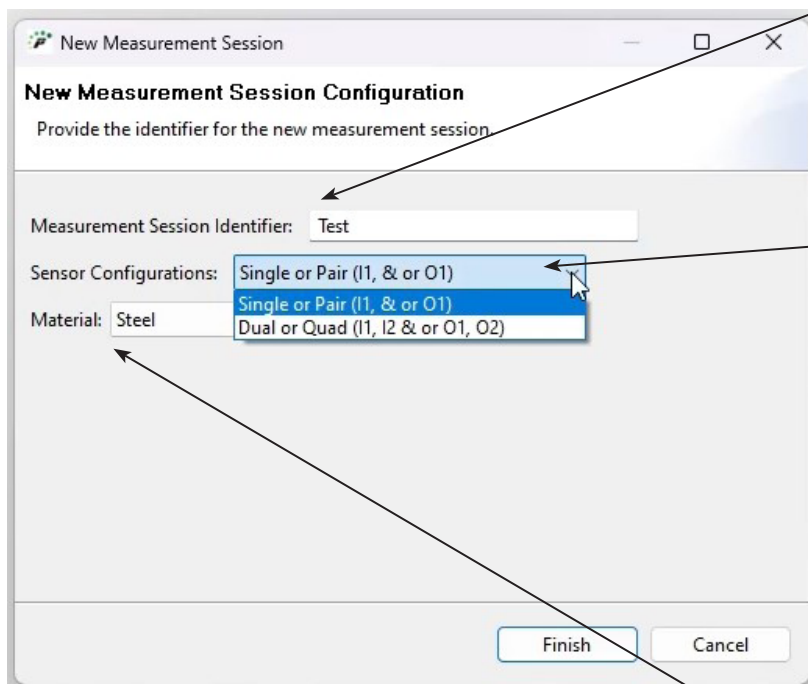

Figure 2-15 - New Measurement Session Configuration
2. Creating a New Measurement Session opens the New Measurement Session Configuration window. See Figure 2-15. Enter the values as shown in each of the fields.